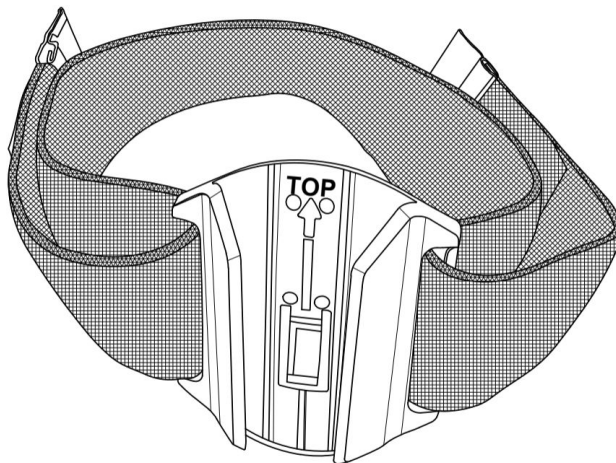

Figure 2
2. Adjust tabs so they attach to the band surface securely (Figure 2).